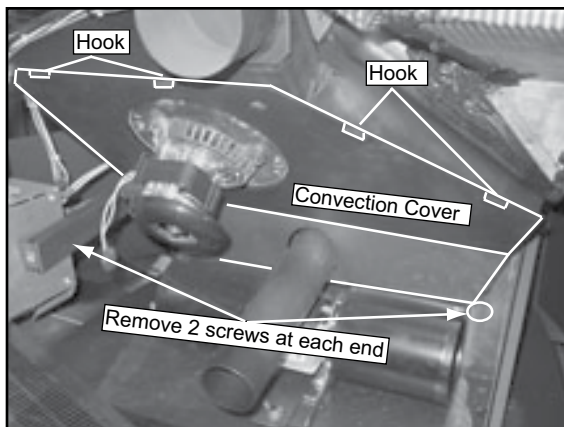

Figure 34.1
- g. Remove 2 screws at each end of the the convection cover and then slide the hooks to the left and remove with the exhaust blower still attached. **Figure 34.1.**